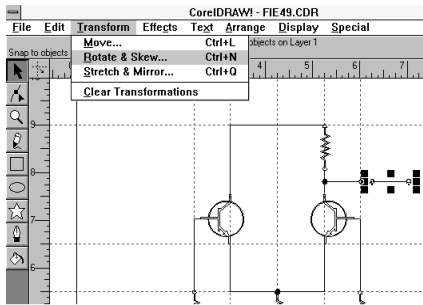

Fig. 22
**57.** We desire to place this segment on the top of the schematic for the line where the +15 V supply connects to the circuit. This segment needs to be both rotated and moved. To rotate the part, click on the transform menu and select the rotate and skew sub-menu. See **Figure 22**.